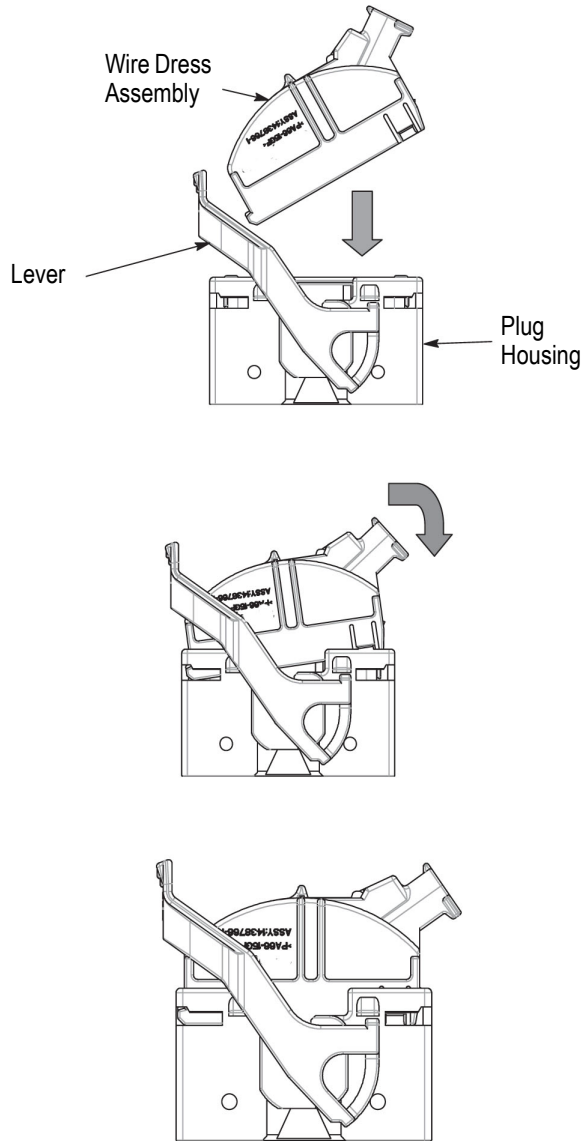

Figure 5
1. Insert the front of the wire dress into the plug housing as shown in Figure 5.